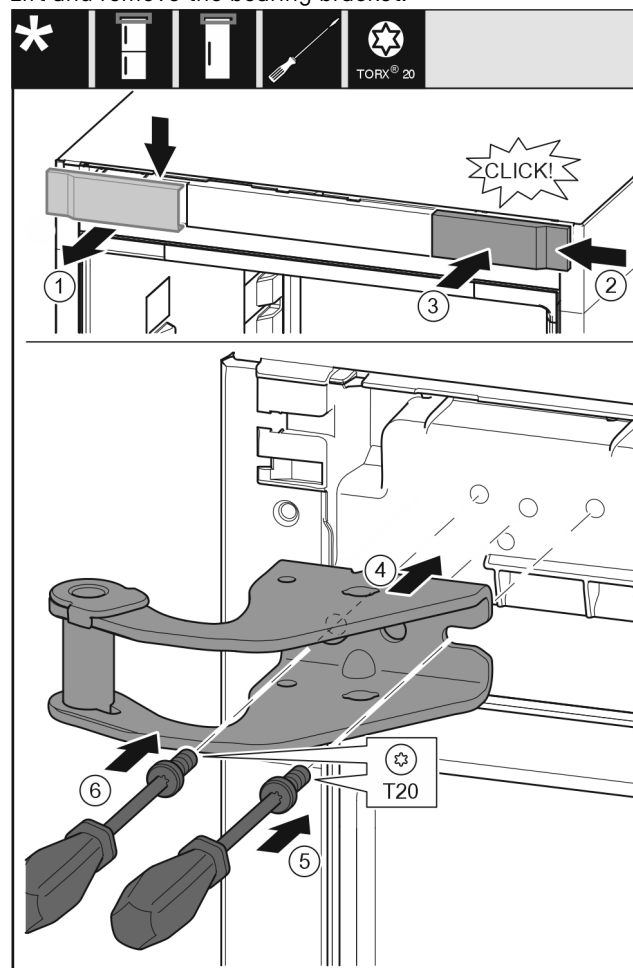

Fig. 9
- Take off the cover to the front from above. Fig. 9 (1)
- Rotate the cover 180° and clip onto the other side from the right. Fig. 9 (2)
- Latch the cover into place. Fig. 9 (3)
- Position the upper bearing bracket. Fig. 9 (4)
- Insert the screw with a T20 screwdriver and tighten it. Fig. 9 (5)
- ▶ Insert the screw with a T20 screwdriver and tighten it. *Fig. 9 (6)*